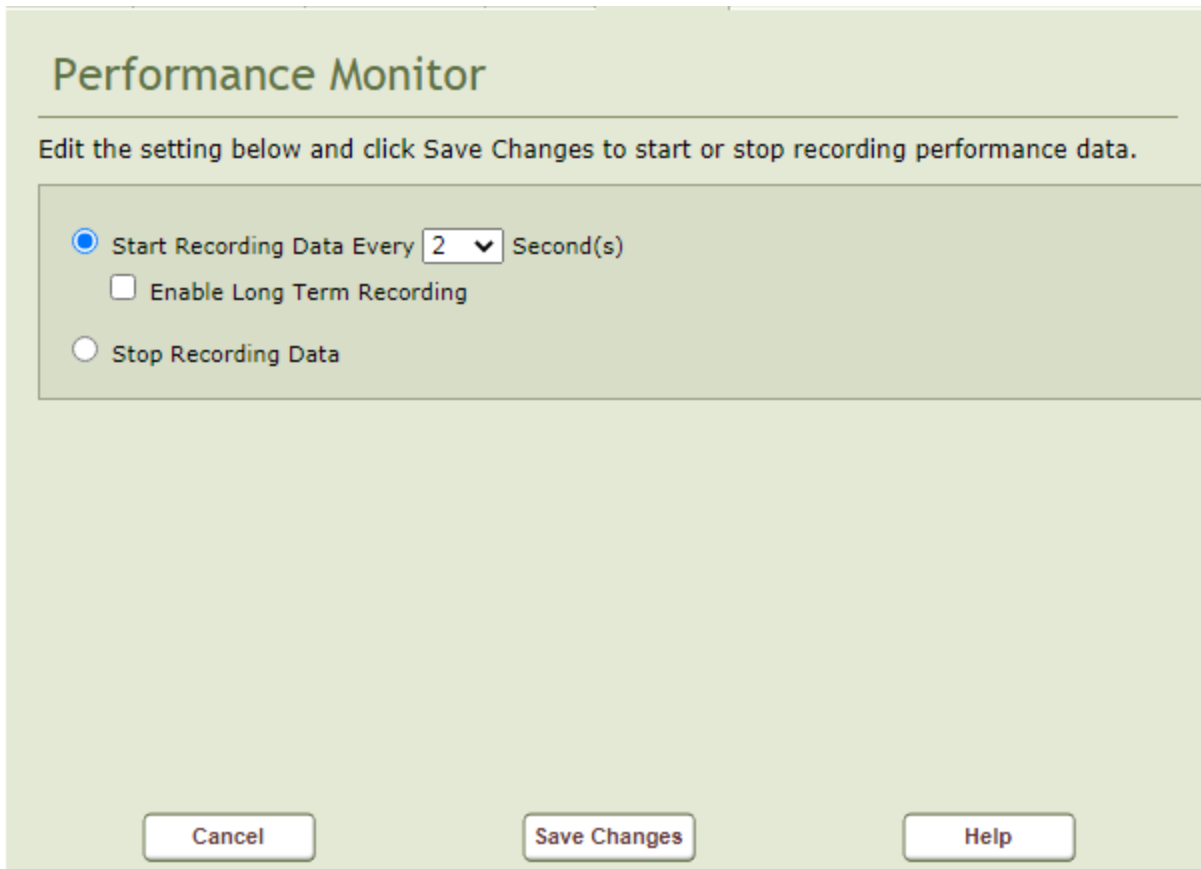

Figure 74: Start Recording Data
2. Select on "Start" and select sample time as shown in Figure 74: Start Recording Data. The default of 0.5 seconds will normally be used.